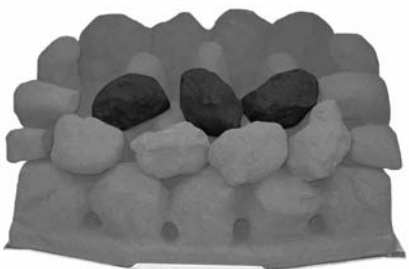

Fig. 21
6. Choose three loose coals and place them in line on the next row up, again making sure all the gaps are even. It is important that the coals 'bridge' the peaks of the fuel bed and are not placed in between. This helps the flow of burnt gases and should give an even glowing fuel bed (Fig. 21).